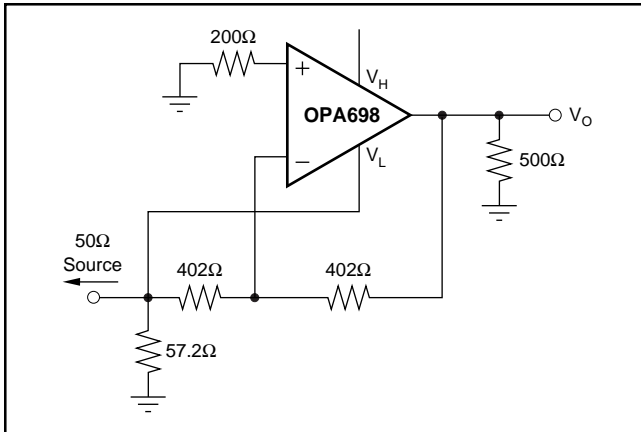
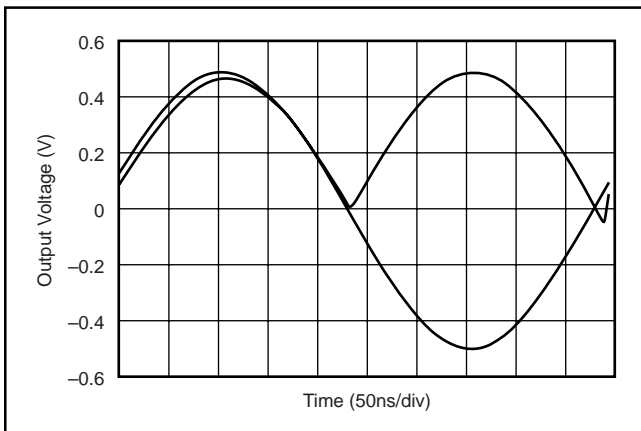

FIGURE 9. High-Speed Full Wave Rectifier #1.
FIGURE 10. 2MHz Sinewave Rectified.
(7) Limiter feedthrough is the ratio of the output magnitude to the sinewave added to V_H (or V_L) when $V_{IN} = 0$.
(8) V_H slew rate conditions are: $V_{IN} = V_{CM} + 0.4V$, $G = +2$, $V_L = V_{CM} - 1.2V$, $V_H =$ step between $V_{CM} + 1.2V$ and V_{CM} . V_L slew rate conditions are similar.
(9) Linearity Guardband is defined for an output sinusoid ($f = 5MHz$, $V_O = V_{CM} \pm 1V_{PP}$) centered between the limiter levels (V_H and V_L). It is the difference between the limiter level and the peak output voltage where SFDR decreases by 3dB (see Figure 9).
The circuit shown in Figure 9 uses only one amplifier, in an inverting gain of -1 configuration. The upper limiting voltage is left open, resulting in an upper limiting voltage of $+3.5\text{V}$. The lower limiting voltage is connected to the input signal, resulting in the following behavior. When the input voltage is negative, the amplifier is not limiting, resulting in the inversion of the input sinewave to the output. During the positive excursion of the input signal, the output signal is being driven by the limiting input pin. Since the output is driven from the limiter input pin from positive inputs, the lower slew rate in the input path restricts the application of this approach to lower amplitude and/or frequencies. A 2MHz fully rectified sinewave is shown in Figure 10.